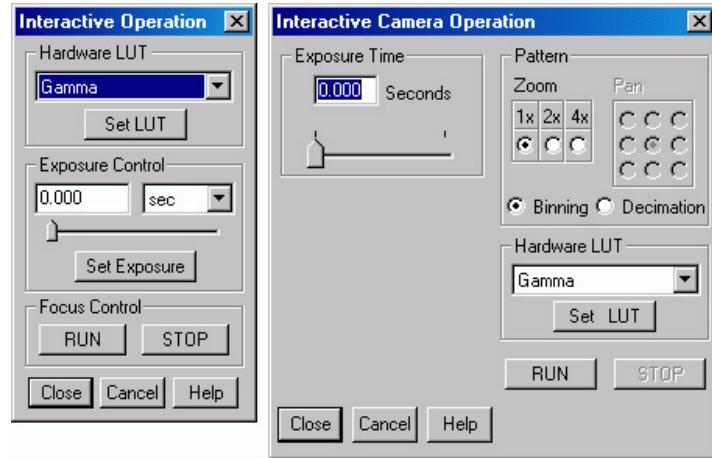

Figure 50. PentaMAX Interactive Operation dialog box
2. Select **Video Focus** from the Acquisition Menu. The Interactive Operation dialog box that will be displayed depends on the PentaMAX version. Version 5 and higher will display the righthand dialog box shown in Figure 50. Earlier versions, display the lefthand dialog box.